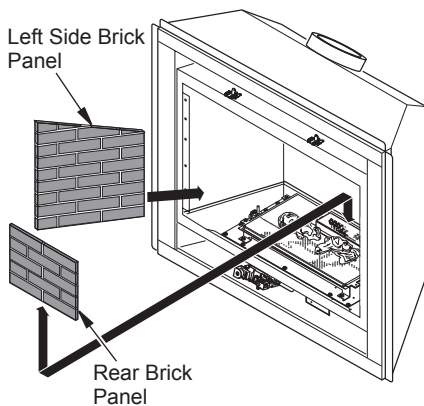

Figure 39 - Installing Rear Brick Panel
6. Install rear brick panel first. Rest bottom edge of panel on back edge of burner assembly (see Figure 39).
7. Install left side brick panel by sliding it between burner assembly and side of firebox (see Figure 39).